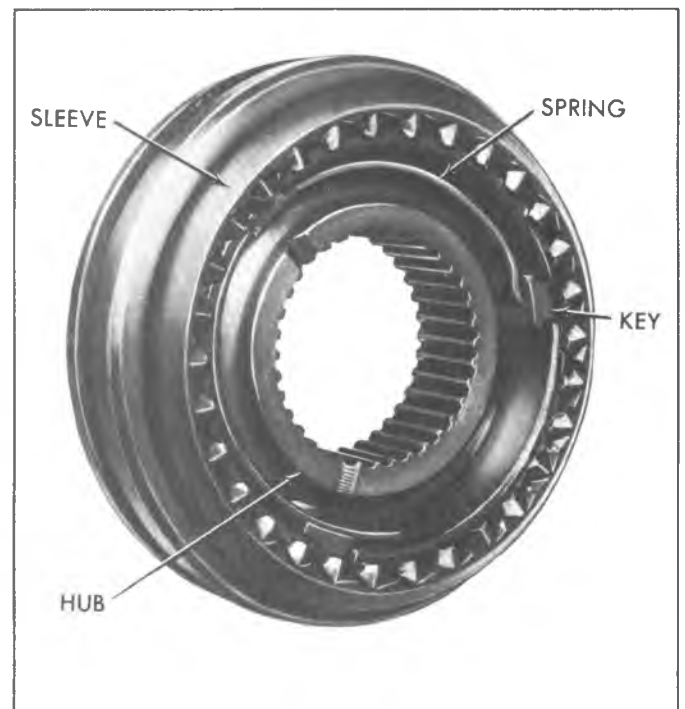

Fig. 11X-Three-Four Synchronizer Assembly
3. Place the three keys and two springs in position (one on each side of hub), so all three keys are engaged by both springs (fig. 11X). The tanged end of each synchronizer spring should be installed into different key cavities on either side. Slide the sleeve